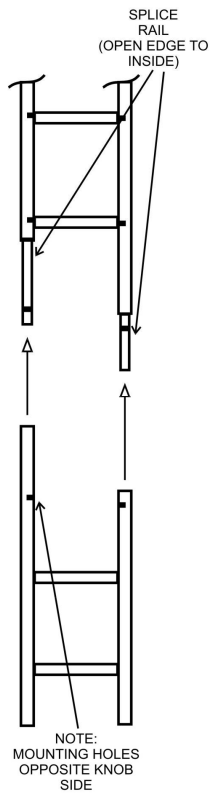

Figure 4.
6. To install the extensions, slide the rails over the previously installed splice rails and align the holes as shown in *Figure 4* (see next page). Be sure to align the mounting holes on opposite sides of the locking knob. Note, the extension with the Cut label must always be the bottom section.